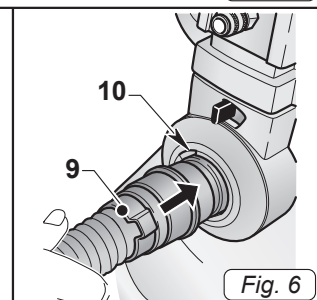

Fig. 6
- Insert, as far as possible, the sleeve (9 Fig. 6) of the suction hose into the nozzle (10 Fig. 6) on the drum.